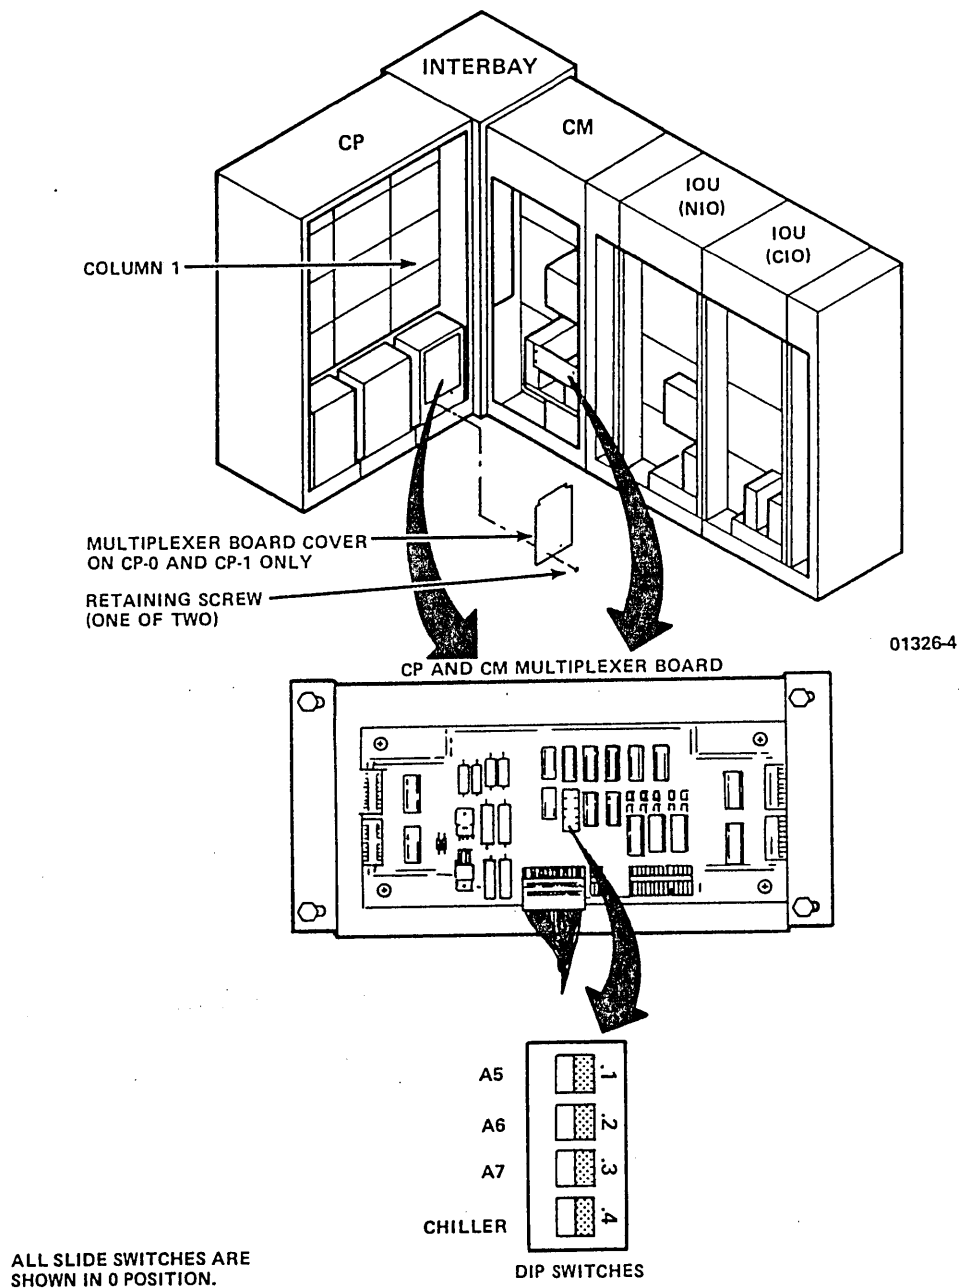

Figure 4-18. Multiplexer Board DIP Switches in CP and CM Cabinets
- ___ 2. Verify DIP switch settings at rear of CM cabinet (figure 4-18) by observing that the A5 slide is positioned at 1 (left) and the A6, A7, and CHILLER slides are positioned at 0 (right). If slides are incorrectly set, reset them.